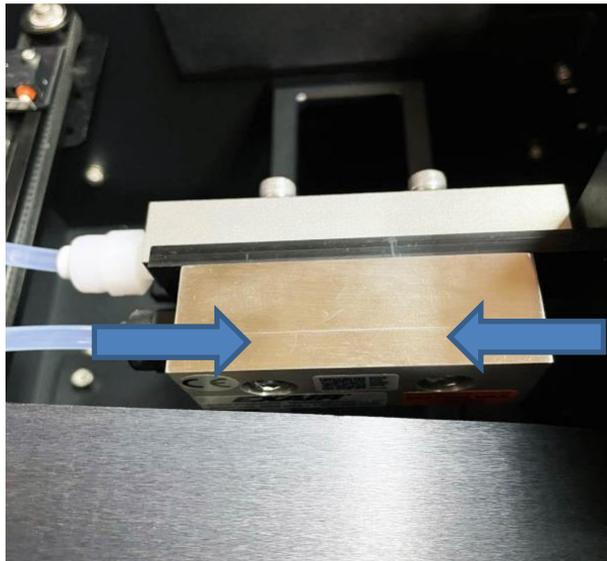

Figure 79 – Rinse Module – Rinse Head Screw Locations
4. Reassemble the rinse head and screw it back into place. Make sure to place the shim as shown below (Figure 79) when reassembling.